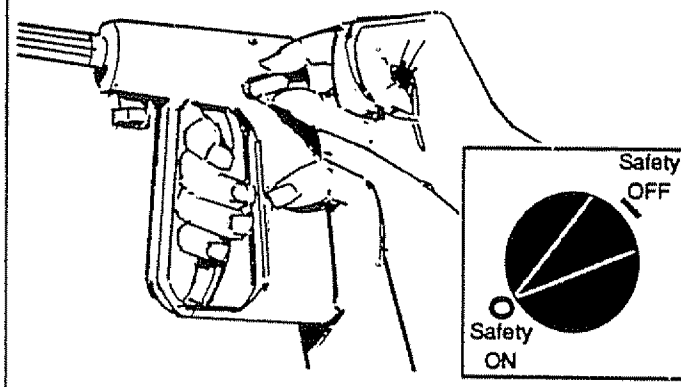

FIG. 13
- Apply the safety latch to the spray gun trigger (Fig. 13).